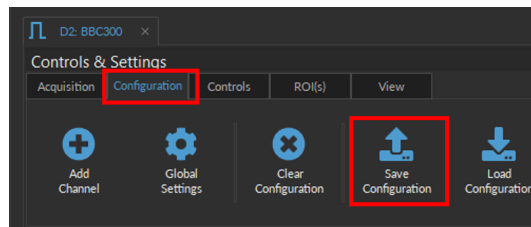

Figure 1.17: Save Configuration
7. Now the configuration file is ready, you can save this configuration file. To save it, in the **Configurations** tab, select **Save Configuration**, then select an appropriate name and save it. In the future, simply open the saved configuration file to record data (Fig. 1.17).